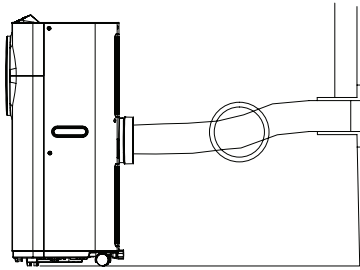

Fig. 7
- Avoid kinks and bends in the exhaust hose as this will cause expelled moist air to build up causing the unit to overheat and shut down. Fig 7 & 8 show correct position